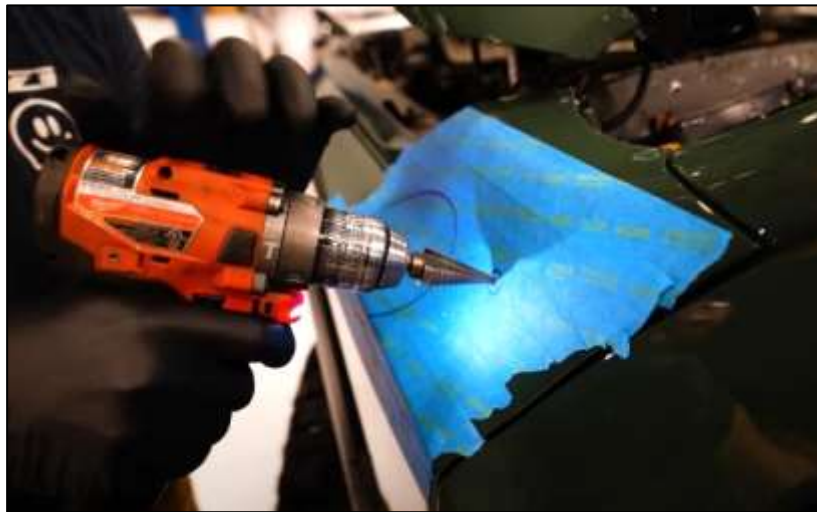

Figure 8
11. Using a Center Punch or Drill, mark the center of the (3) three smaller holes marked in *Step 9. Figure 8.*